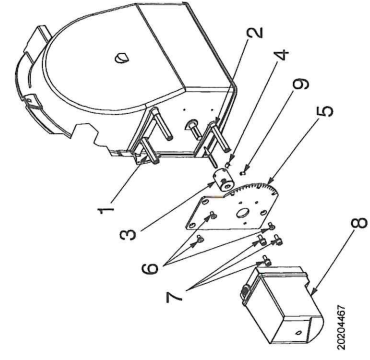

Fig. 2
- ▶ Assemble the shafts 1)(Fig. 2) on the burner air intake.